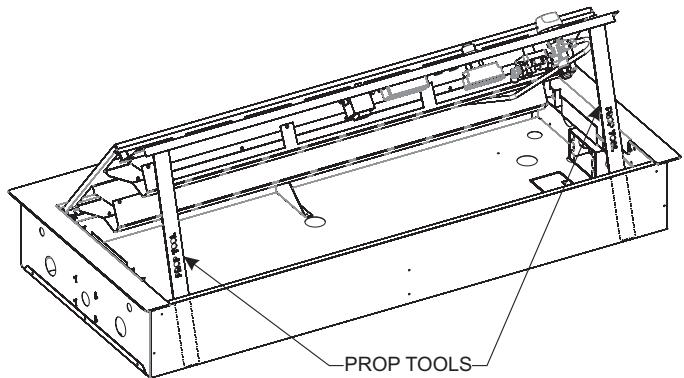

**Figure 25**
- e. Remove two screws from front corners of the control panel with a 5/16-inch hex head driver. **See Figure 25.**
- After gas and electrical hookup is completed, lower and secure the burner assembly (leave two prop tools in bottom of firepit for future use) with the two screws removed in **Figure 25**.